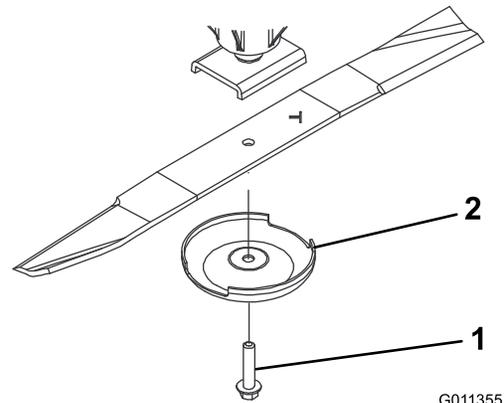

Figure 103
3. Remove the blade bolt, anti-scalp cup, and blade from the spindle shaft (Figure 103).